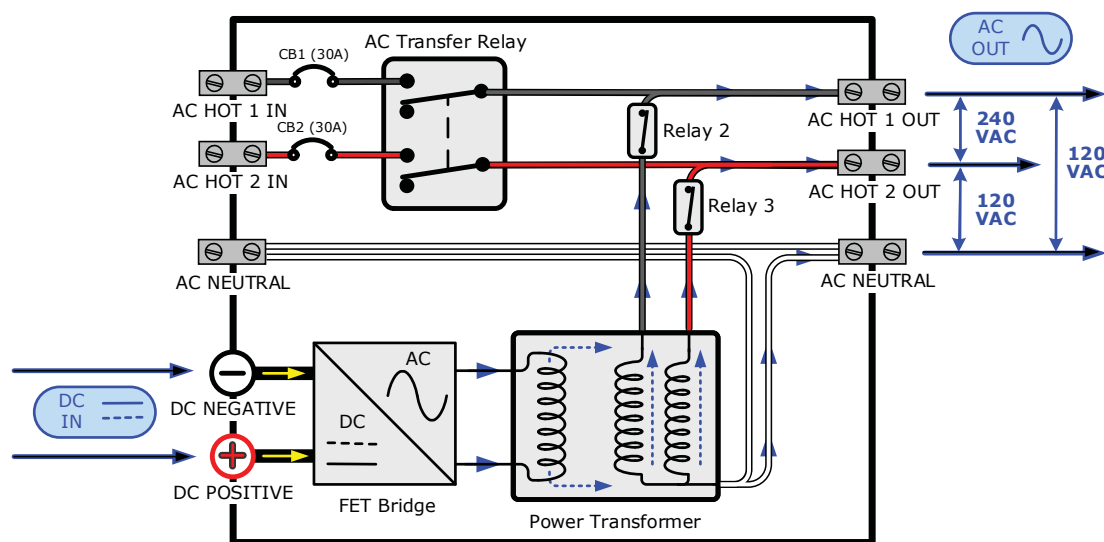

Figure 3-1, Power Flow – Inverter Mode
**Inverting:** When a load greater than 5 watts is connected to the inverter output, the MS-PAE series “inverts” the DC power from the battery and supplies 120/240 VAC power to your sub-panel. The inverter’s green LED flashes once every second (medium flash) to indicate it is inverting. The amount of time the inverter can be inverting and providing power is directly related to the amount of AC loads that are connected, and the capacity of the battery bank. Refer to Figure 3-1 to see the flow of power from the DC input to the AC output while in Inverter mode.